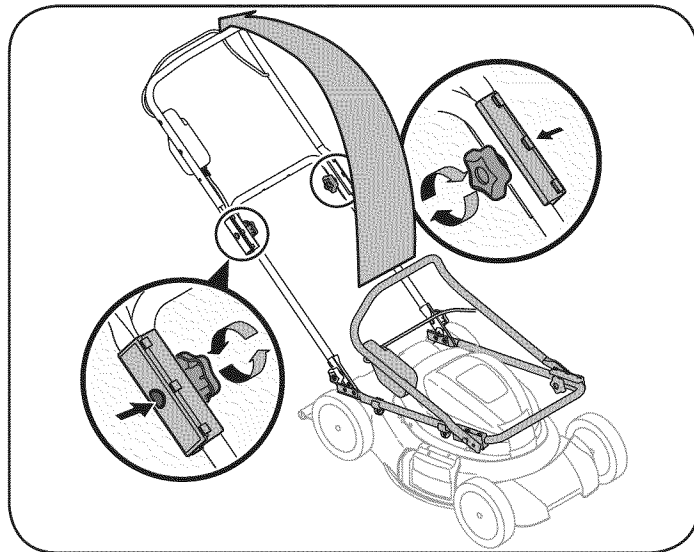

Figure 1
2. Gently lift and pivot the upper handle into the operating position as shown in Figure 1. Make certain the lower handle is seated securely into the handle mounting brackets.